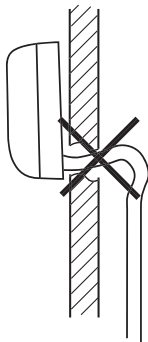

Fig. 9.1 Avoid rising bends.
- Avoid installing the condensed water pipe with a rising bend (see Figure 9.1).